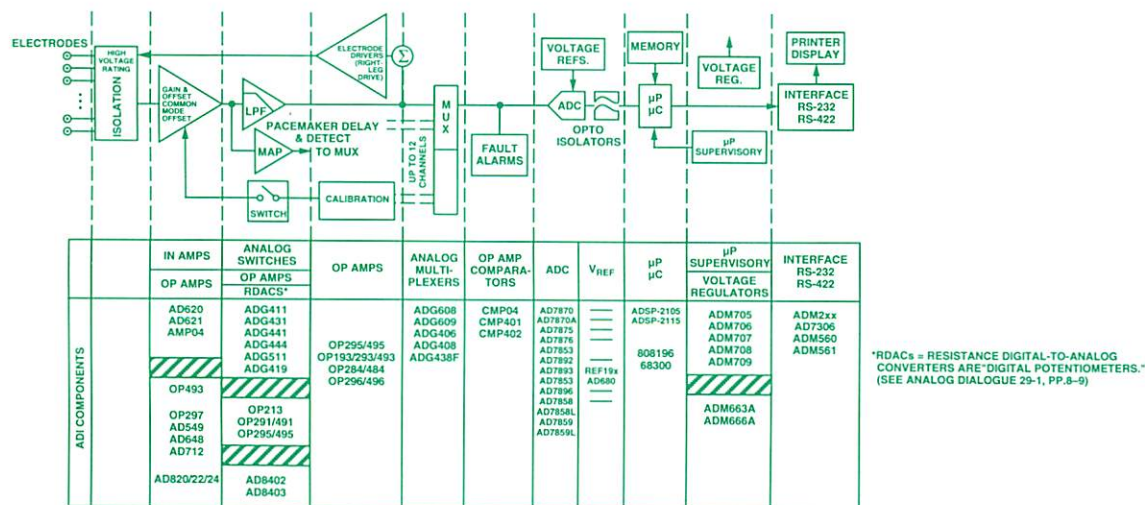

Figure 1. Typical ECG signal chain—multiplexed single-converter architecture.†
**ECG Equipment Architectures:** In multichannel measurement application, such as ambulatory, Holter or ECG, two basic front end architectures are in use: multiplexing analog signals into a single converter (Figure 1), and converter-per-channel (Figure 2).
Let's review some important system performance requirements and their implications for the measurement electronics. The illustrations show the typical signal chains and available Analog Devices ICs that may fit requirements of the various architectures. Note that the front end amplifiers and filters of Figure 1 are repeated for each channel.